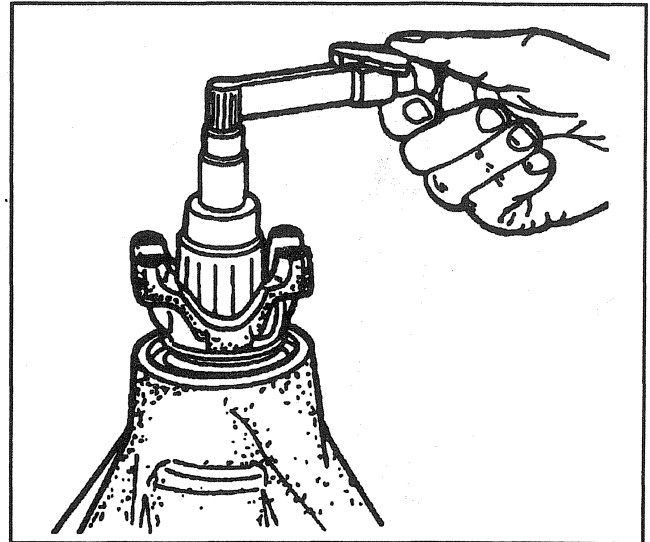

Figure 32—Measuring Pinion Bearing Preload
Measure (Figure 32)
- Pinion bearing preload. Use an inch-pound torque wrench (Figure 32). The correct preload is 1.7 to 2.8 N.m (15-25 lb in).